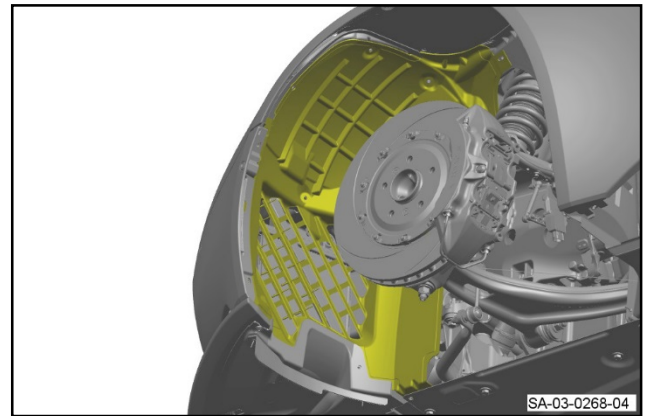

Figure 4
5. Release the front section of the front left side wheel arch liner (refer to Figure 4).